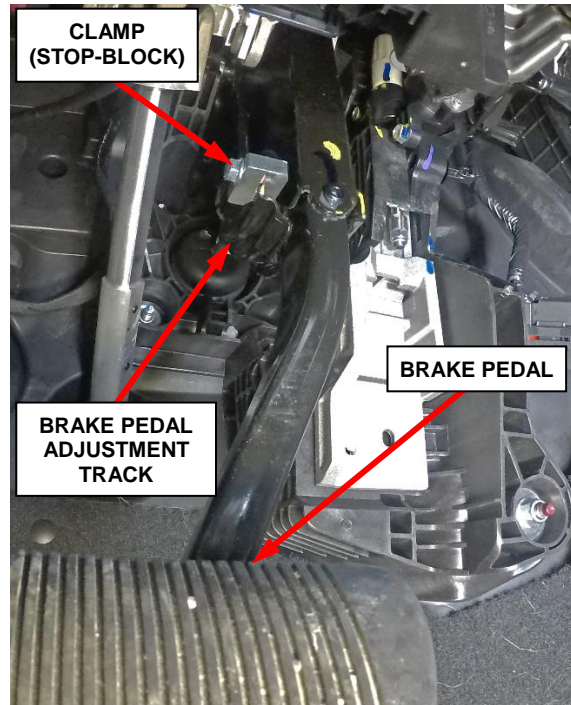

Figure 9 – Clamp (Stop-Block)
- 8. Position and install the clamp (stop-block) to the brake pedal adjustment track, left side of the brake pedal arm (Figures 9 and 10).